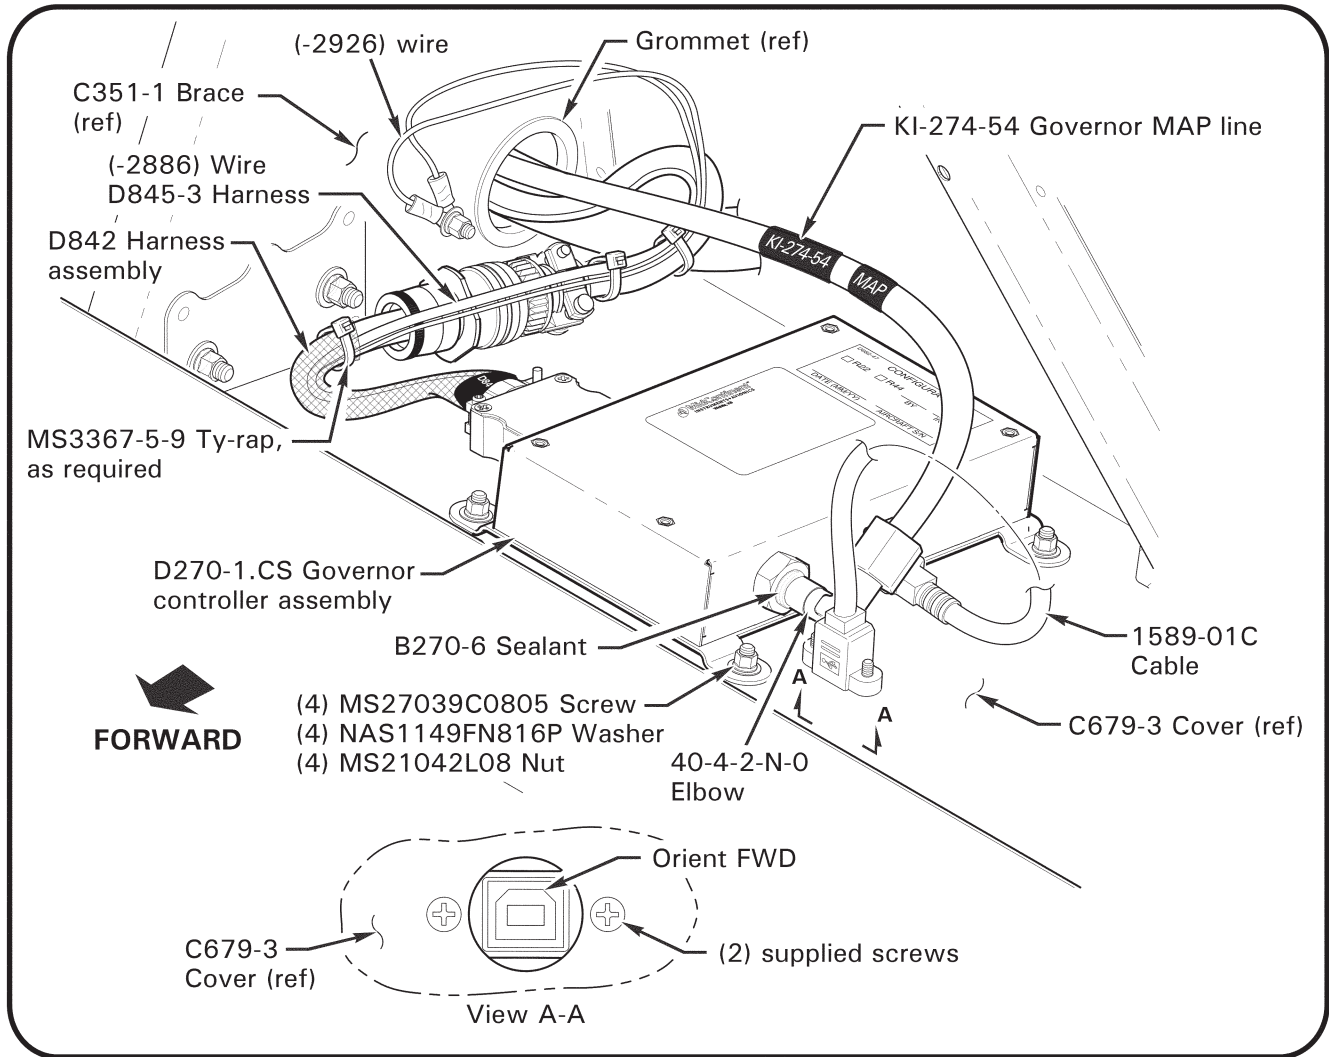

Figure 3 D270-1 Governor controller installation
6. Refer to Figure 3. Apply light coat B270-6 sealant to 40-4-2-N-O elbow threads (do not apply sealant to first thread). Install 40-4-2-N-O elbow onto governor controller. Tighten connection and position.
7. Install governor controller and secure using (4) MS27039C0805 screws, (4) NAS1149FN816P washers, and (4) MS21042L08 nuts.
9. Refer to Figures 3 and 4. Connect KI-274-54 governor MAP line to 40-4-2-N-O elbow as shown. Route governor MAP line to tunnel and along existing MAP line. Choose a suitable location on existing MAP line to connect governor MAP line. Cut existing MAP line and install 60-4-2-N-O tee. Trim governor MAP line as required. Install 45-4-2-N-O elbow and connect elbow to tee. Tighten connections.
31. Refer to Figure 3. Connect D842 harness assembly to existing main wire harness connector (for previous D278 governor controller). Route and install wire (-2926) to ground screw on C351-1 brace and secure using existing hardware.